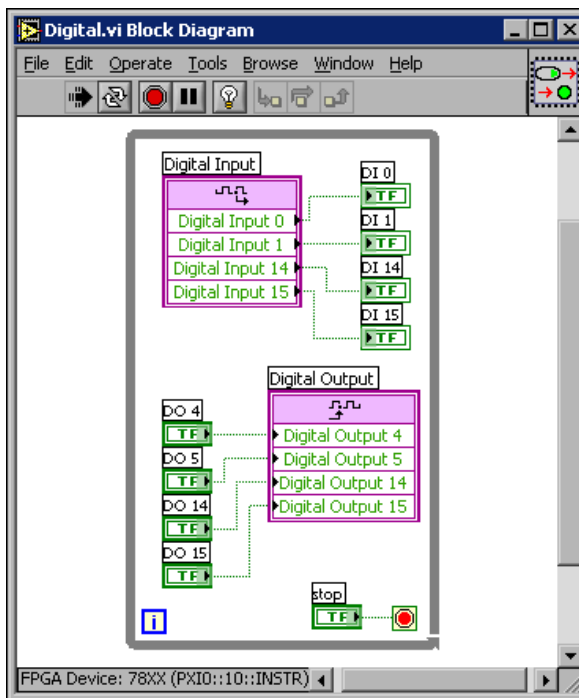

Figure 6. Block Diagram of the FPGA VI
- Select **Window»Show Block Diagram** to view the block diagram, as shown in Figure 6. Notice how the indicators and controls are wired to the Digital Input and Digital Output functions.